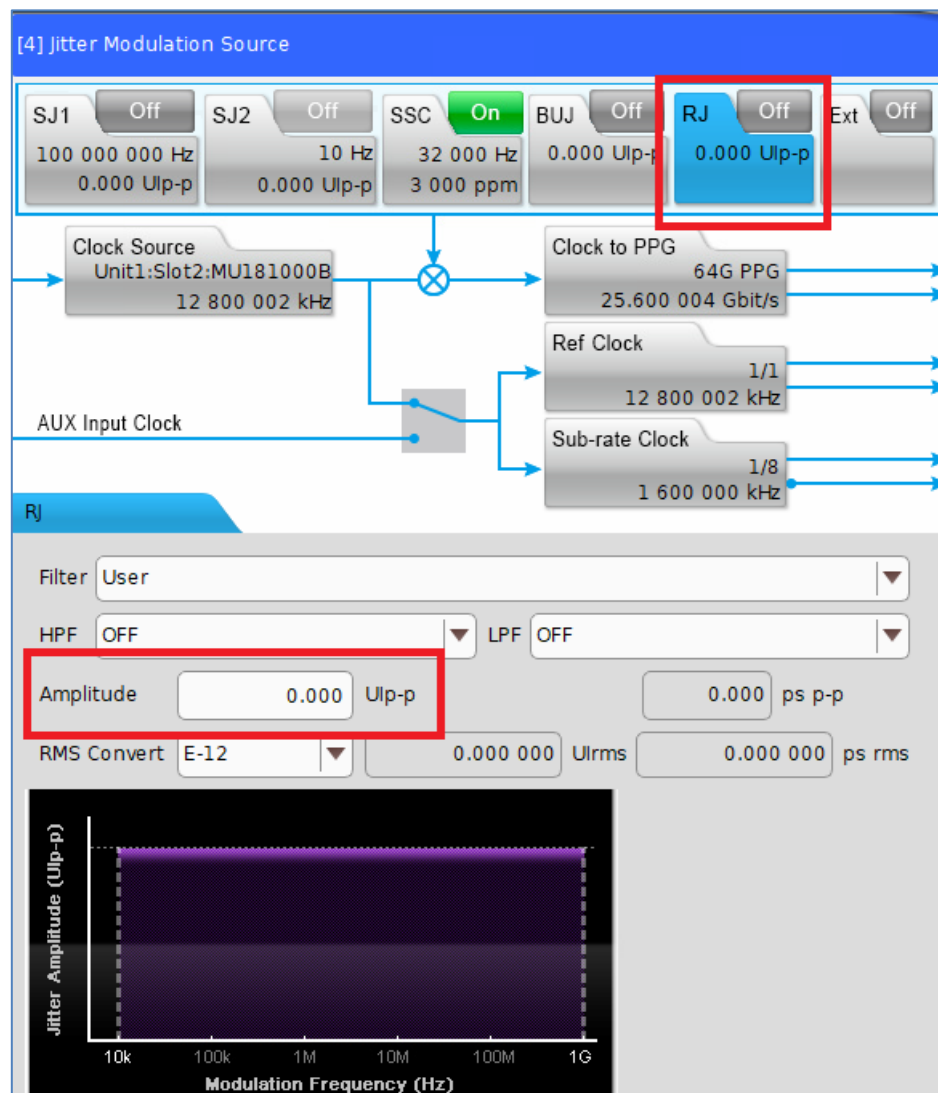

FIGURE 68. RJ SETTING
- xvii. Set RJ amplitude to 0 U1pp and turn off RJ output. See Figure 68.